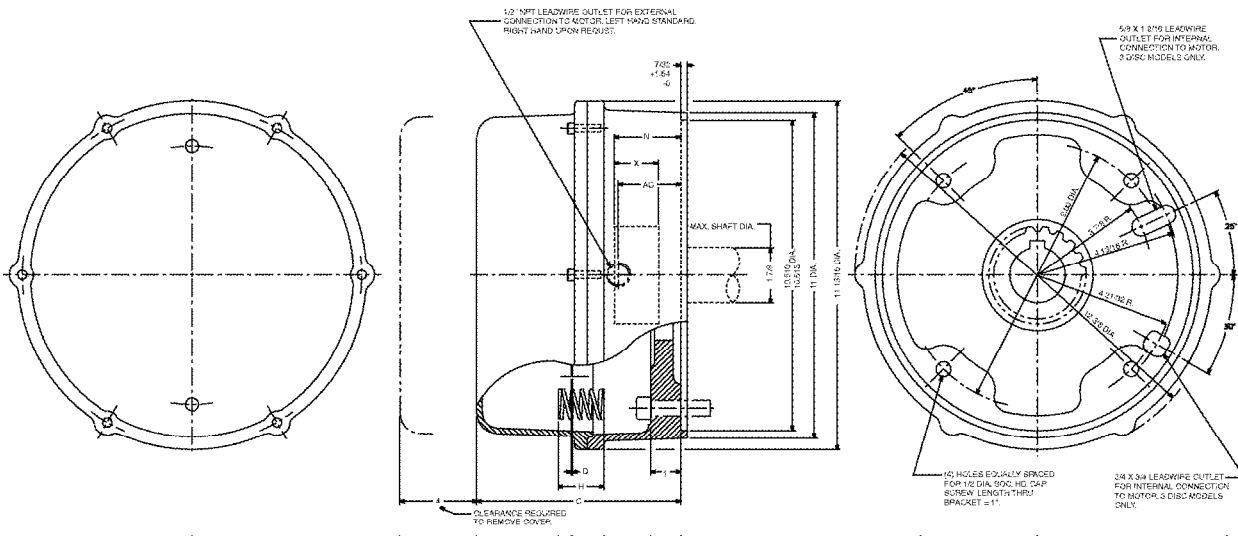

Figure 5. Standard Housing
1. Remove hub (1) from brake and position on motor shaft with key according to dimension "N". Stamped part number on hub should face away from motor. Tighten hub set screws with 12 lb. ft. torque.
2. Remove cover screws (24) and cover (23), plus gasket (28) on enclosed and severe duty models.
4. Bolt brake to motor "C" face with four 1/2 inch socket head cap screws. See Figures 5 and 6 for screw length thru bracket.